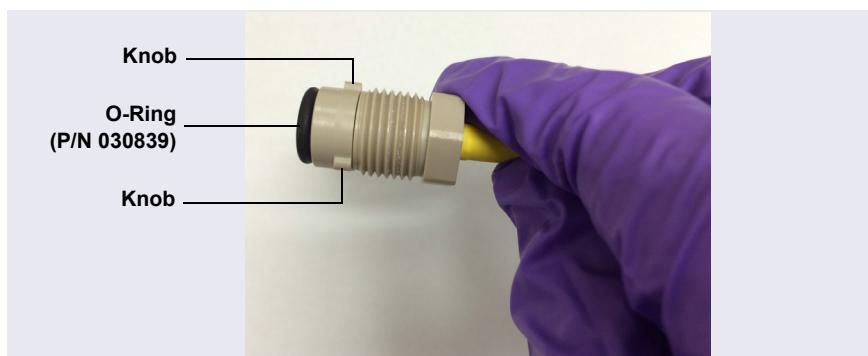

Figure 10-74. PdH Reference Electrode with O-Ring
7. Install the O-ring (P/N 030839) on the end of the PdH reference electrode (see Figure 10-74).